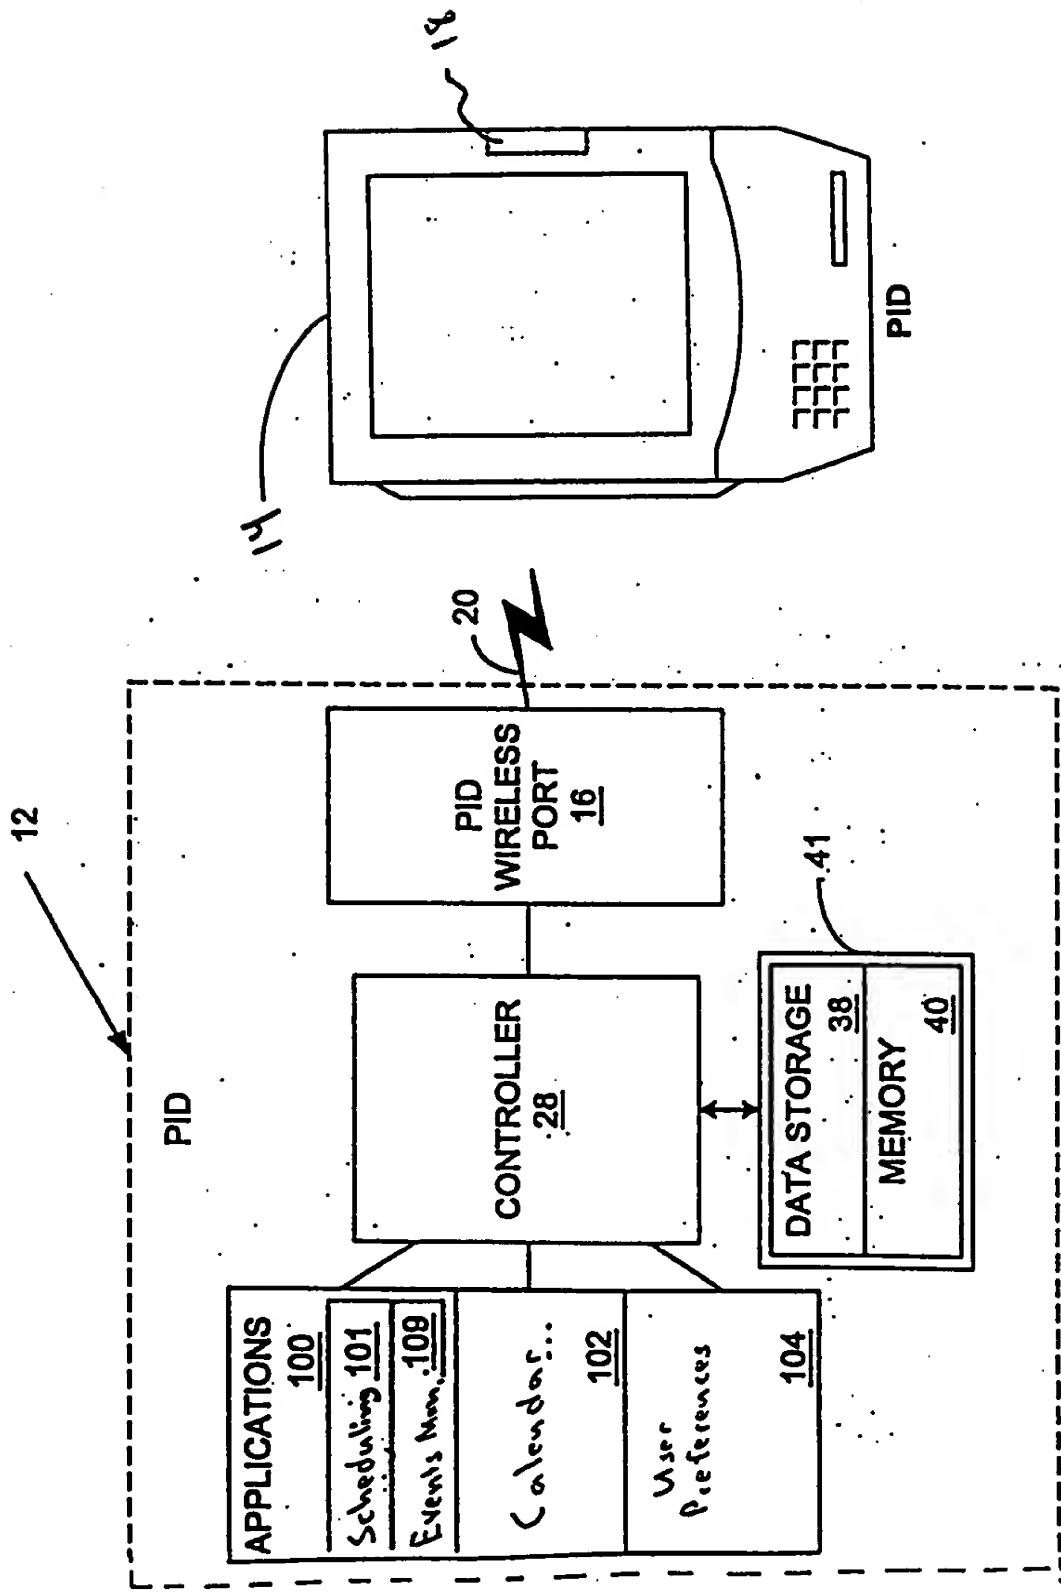

FIG. 5
FIG. 5 is a block diagram of a Personal Information Device (PID) system. The system includes a PID (12) which is connected to a PID Wireless Port (16). The PID (12) contains a Controller (28) and Data Storage Memory (40). The Controller (28) is connected to the PID Wireless Port (16) and the Data Storage Memory (40). The Data Storage Memory (40) is divided into two sections: DATA STORAGE (38) and MEMORY (40). The Controller (28) is also connected to a set of Applications (100) which includes Scheduling (101), Events Man. (108), Calendar (102), and User Preferences (104). The PID (12) is shown as a handheld device with a screen (14) and a keypad (18).